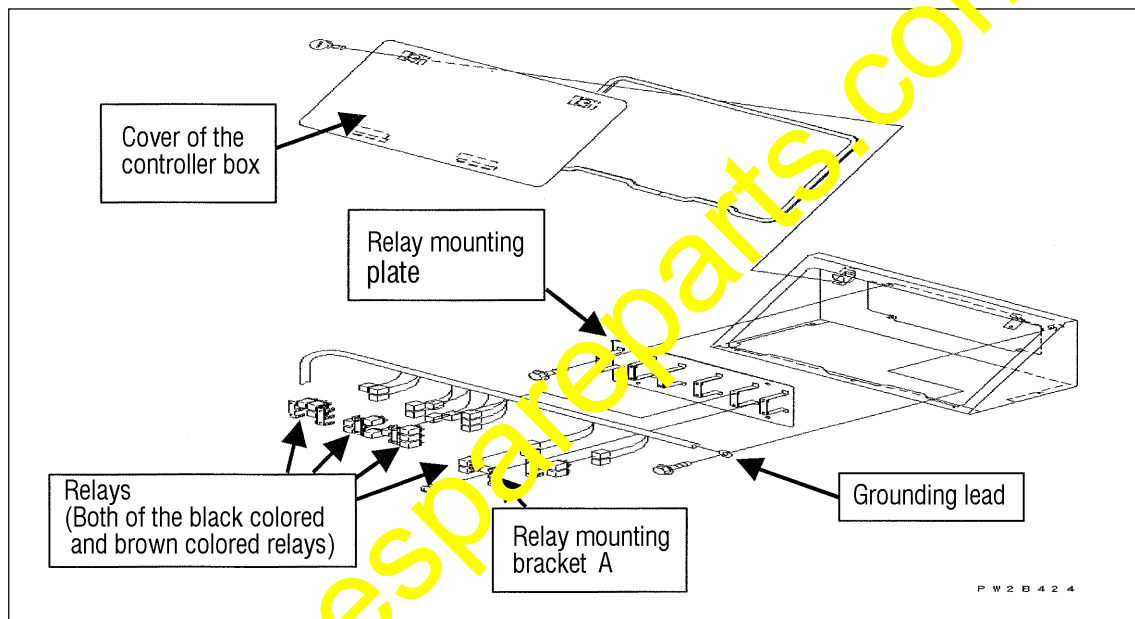

Fig. 2
- 1) Open the cover of the controller box being positioned behind the operator's seat inside the operator's cab, separate the grounding lead and remove the relay mounting plate. (Refer to Fig. 2.)
- 2) Remove all the relays and remove relay connectors from the relay mounting bracket A. (Refer to Fig. 2.)